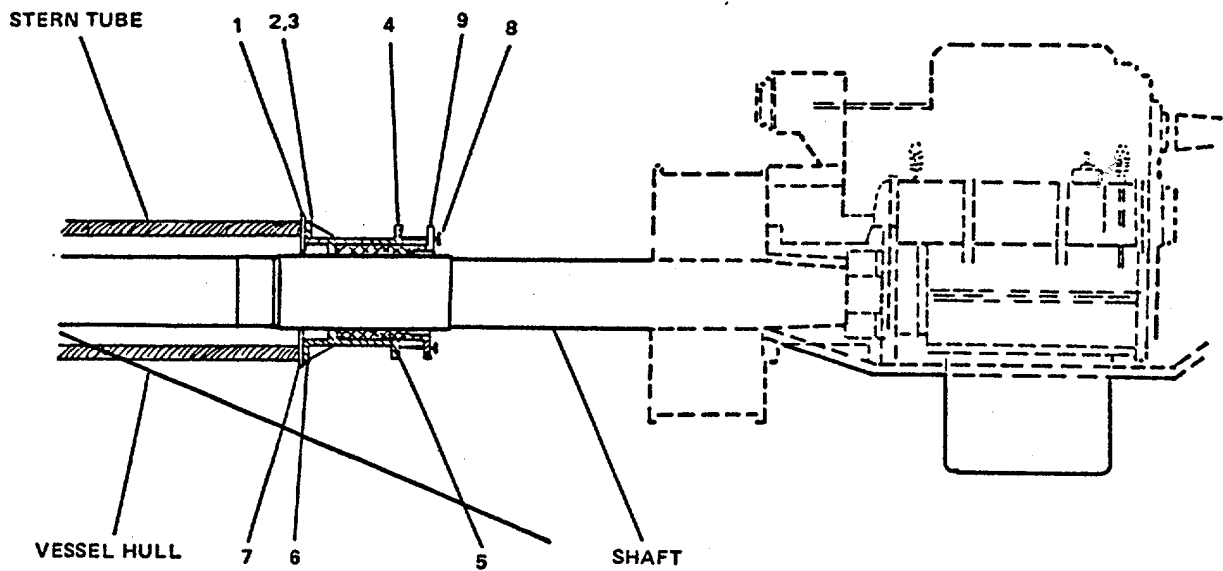

FIGURE 3-188. Repair Propeller Shaft Assembly.
DISASSEMBLY (Figure 3-188)
- (7) After curing time of 1 hour, flex the bonded gasket joint and examine joint for lack of bond. Do not proceed with replacement if joint shows lack of bond.
- (8) Waterproof the bonded joint with a coating of Loctite waterproofing solution over the bond line. Apply just enough solution to cover the bond line completely and prevent air bubbles from forming in the coating, which will cause the coating to be porous.
- (9) Allow waterproofing solution to cure for 10 minutes. If still tacky, applying a coating of silicone grease in step (10) will ensure satisfactory installation.
- (10) Inspect new gasket (6, Figure 3-188) in groove on plate (7) to ensure it fits groove. Apply coating of silicone grease to new gasket (6).
- (11) Slide stuffing box assembly (4) and stern tube and plate (7) along shaft and against stern tube.
- (12) Install eight split-ring lockwashers (3) and hex head capscrews (2) to secure end plate (7) and stuffing box assembly (4) to stern tube. Tighten hex head capscrews to 350 ft-lb torque.
- (13) Install new lock wire (1) into hexhead capscrews (2) and secure.